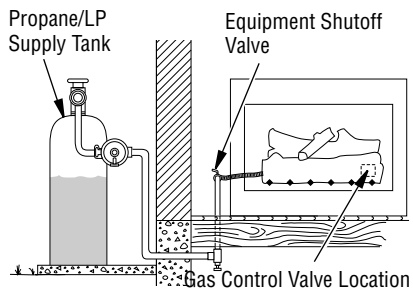

Figure 16 - Checking Gas Joints (Propane/LP Model Shown)
3. Check all joints from gas meter to equipment shutoff valve for natural gas or propane/LP supply to equipment shutoff valve for propane/LP (see **Figures 16 and 17**). Apply noncorrosive leak detection fluid to all joints. Bubbles forming show a leak.
4. Check all joints from equipment shutoff valve to gas control (see **Figures 16 and 17**). Apply noncorrosive leak detection fluid to all joints. Bubbles forming show a leak.